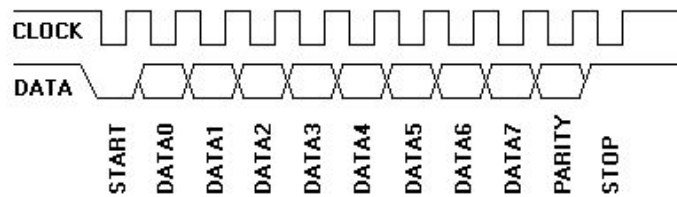

Figure 2
The keyboard sends data to the host only when both the data and clock lines are high. Because the host is the “bus master”, the keyboard checks whether the host is sending data before driving the bus. The clock line can be used as a “clear to send” signal. If the host pulls the clock line low, the keyboard must not send any data until the clock is released. The keyboard sends data to the host in 11-bit words that contain a ‘0’ start bit, followed by eight bits of make/break code (LSB first), followed by an odd parity bit and terminated with a ‘1’ stop bit. When the keyboard sends data, it generates 11 clock transitions at around 20 to 30 kHz, and data is valid on the falling edge of the clock as shown in Figure 2. After each transmission the data and clock lines are returned to the inactive state until the next byte is sent. The parity bit is set if there is an even number of 1's in the data bits and reset (0) if there is an odd number of 1's in the data bits. The number of 1's in the data bits plus the parity bit always add up to an odd number (odd parity.) This is used for error detection. The keyboard/mouse must check this bit and if incorrect it should respond as if it had received an invalid command. Data sent from the keyboard to the host is read on the *falling* edge of the clock signal; data sent from the host to the keyboard is read on the *rising* edge of the clock.